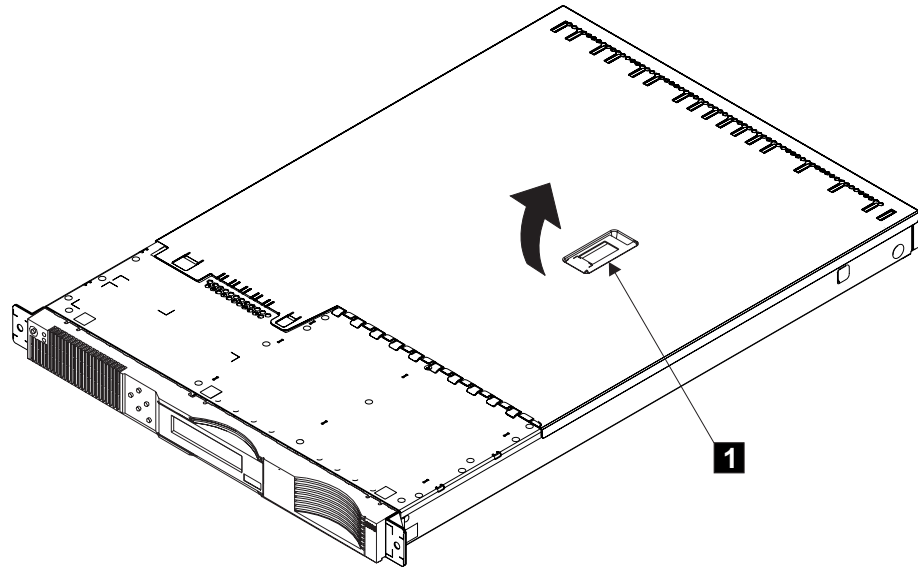

Figure 35. Removing the top cover
3. Lift the lever **1**. This action moves the top cover rearward approximately 13 mm (0.5 in). See Figure 35 on page 165.